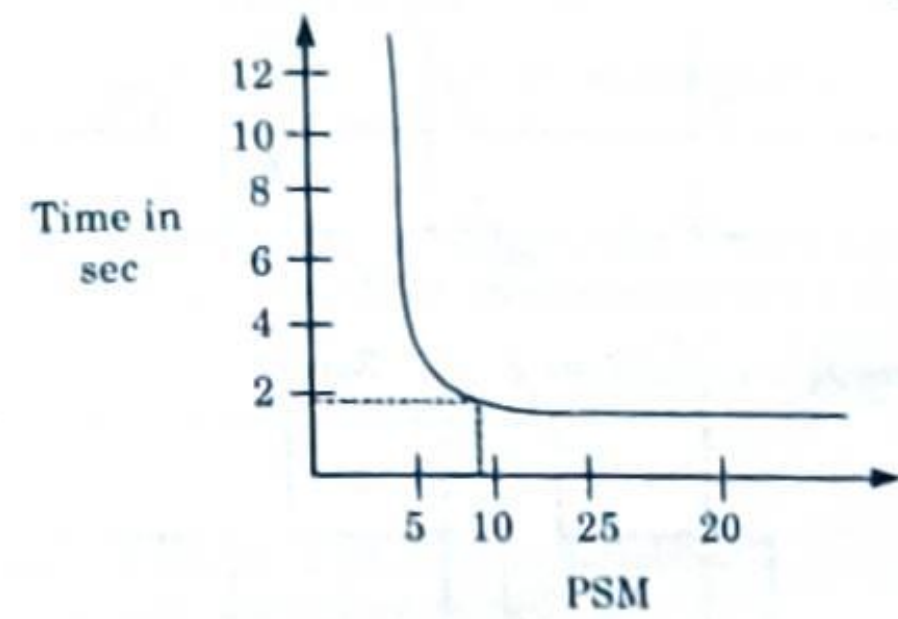

Fig. 3.16.1.
Que 3.16. An IDMT overcurrent relay has a current setting of 150 % and a time multiplier setting of 0.6. The primary of relay is connected to secondary of CT having ratio 400/5. Calculate the time of operation if the circuit carries a fault current of 5000 A. The time-current characteristic of the relay is given in Fig. 3.16.1.
- From Fig. 3.16.1, approximate time for PSM of 8.333 is 1.8 sec.